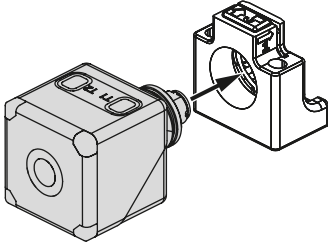

Fig. 5: QuickLock mounting bracket: insert Sensor
- ➔ Insert the sensor into the bracket according to Fig. 5 and press until the bracket audibly engages.